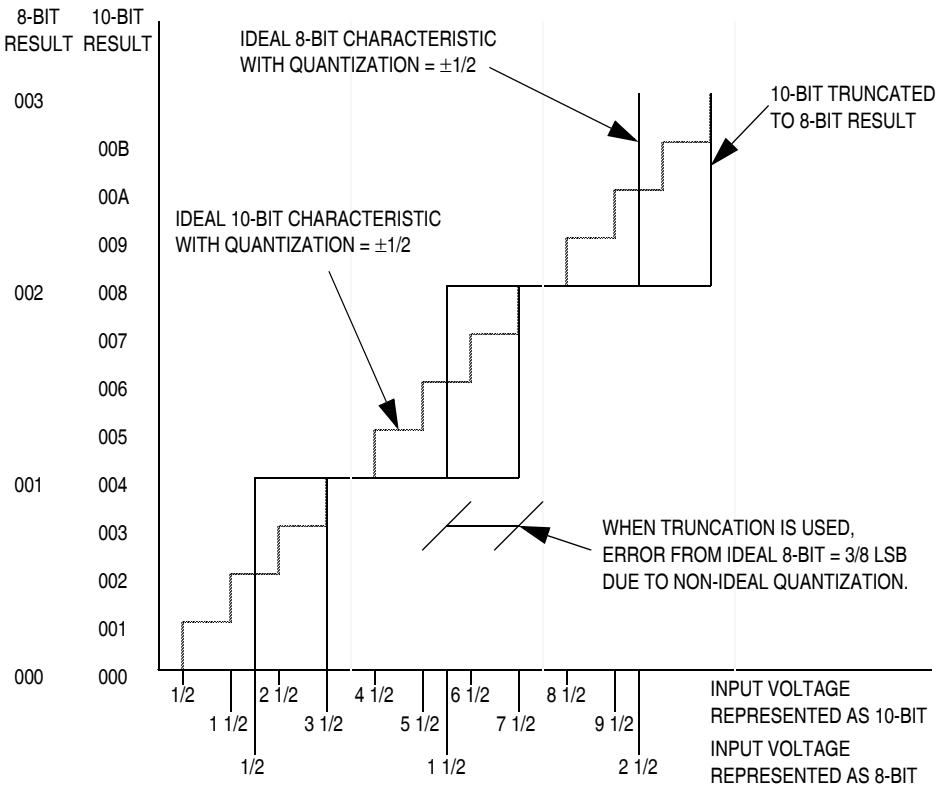

Figure 15-3. 8-Bit Truncation Mode Error
**NOTE:** Quantization error is affected when only the most significant eight bits are used as a result. See Figure 15-3.